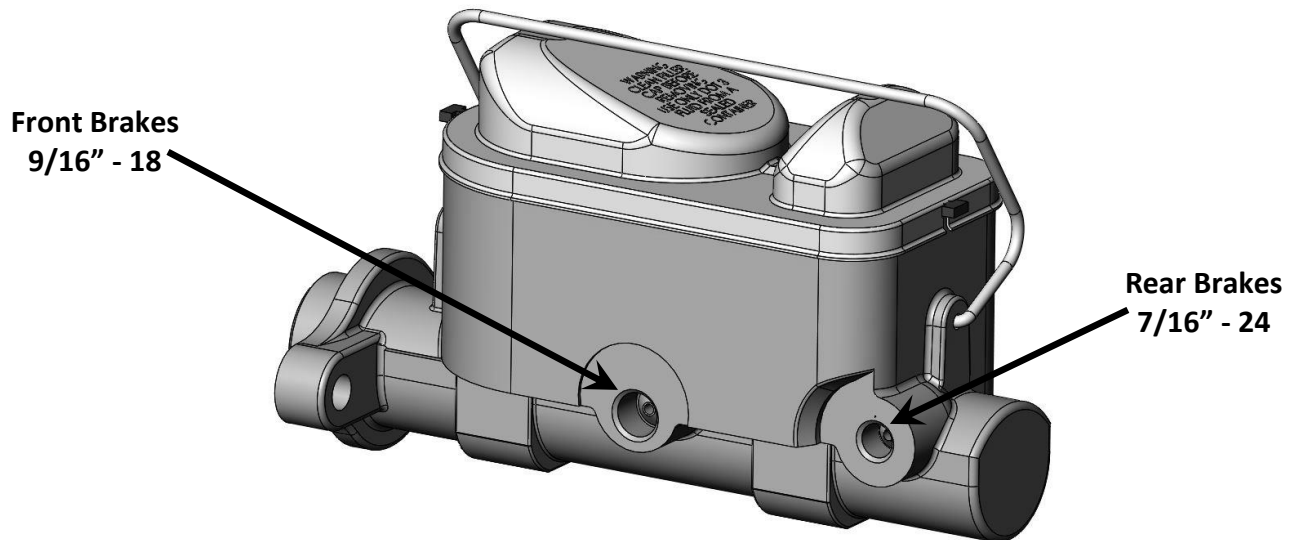

Figure 8 – Brake Line Routing for 1-1/8" Bore Master Cylinder (MC11897P/M)
10. With the entire booster/master combo installed, the master cylinder can be plumbed into the vehicle. Figure 7 below shows port locations for the 1" bore master cylinder while Figure 8 is for a 1-1/8" bore master cylinder.